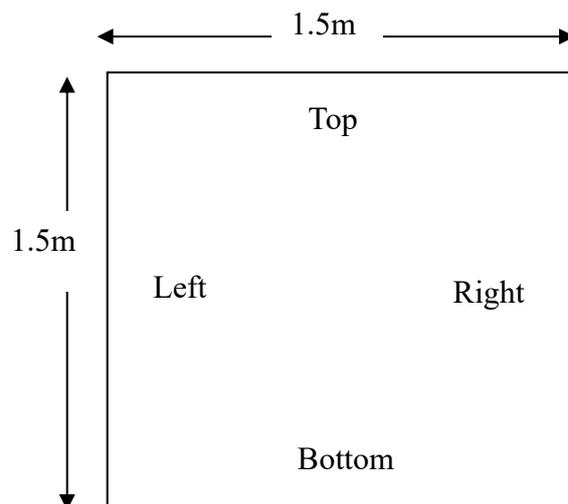

Fig 7.1 Schematic Representation of Flat Plate Geometry
- Named Selection → Specify the boundaries as given in fig.7.1